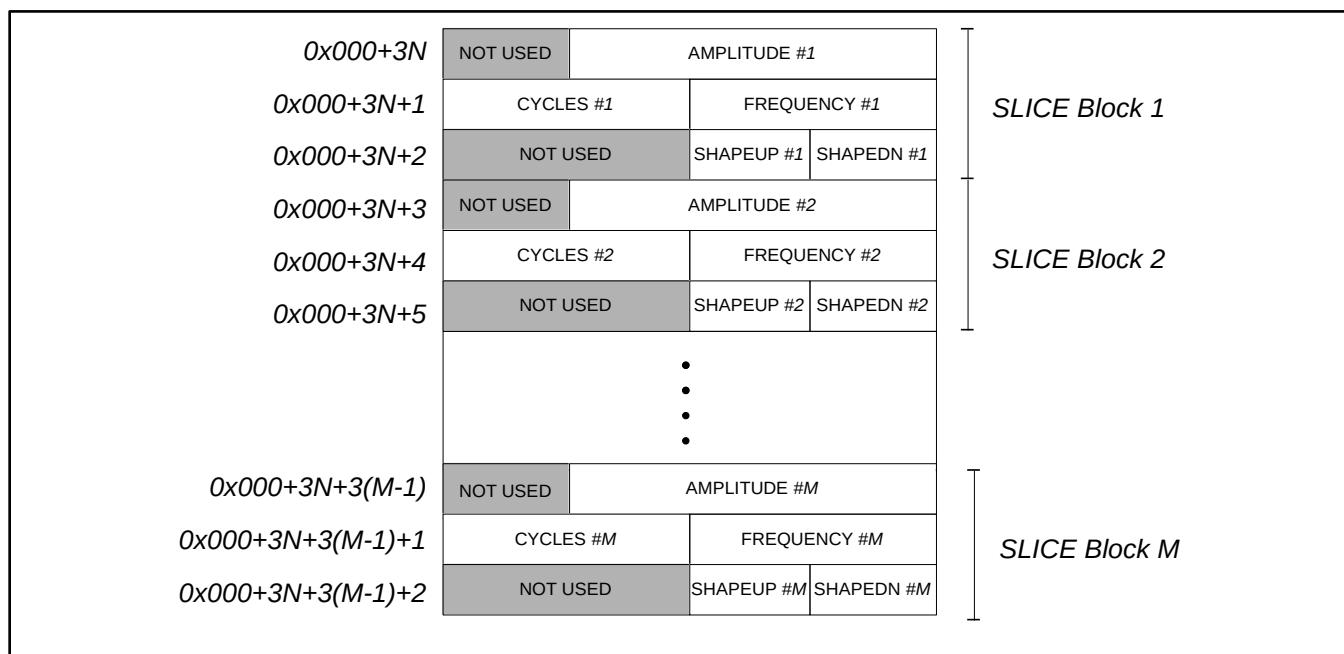
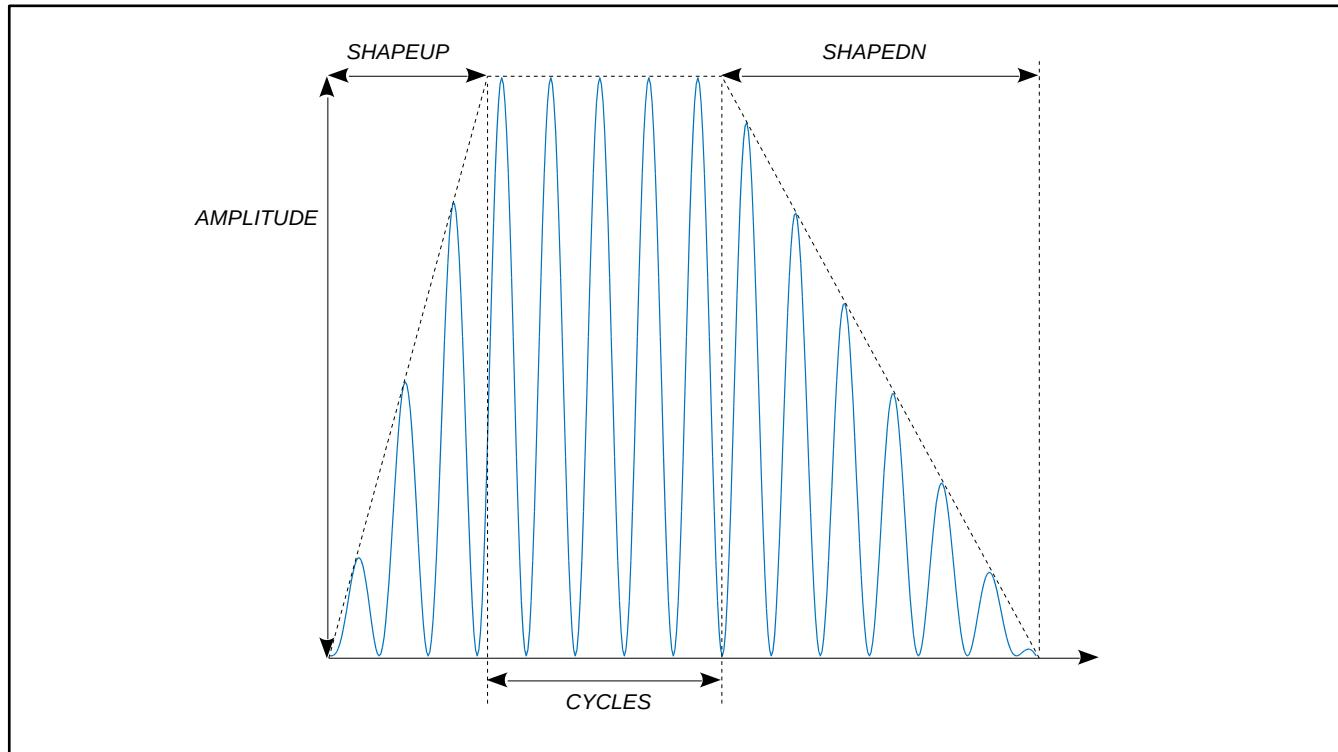

Figure 16: M SLICE blocks in RAM preceded by N WAVE blocks
Figure 17: Sine wave SLICE parameters illustration
- 1) SLICEs, written in RAM using the RAM SYNTHESIS WRITE command. Each SLICE contains a group of parameters used to produce a sine wave of defined amplitude, frequency, and number of cycles. It may also be ramped up and down (as shown in Figure 17). See section 6.8.1.1 for more details.
SLICE blocks in RAM contains the parameters used to synthesize sine waveforms. Each SLICE block contains three words grouping five parameters as described in Figure 16 and Table 13. The Figure 17 illustrates how SLICE parameters shape a SLICE waveform. Many SLICEs may be successively played to form complex waveforms.